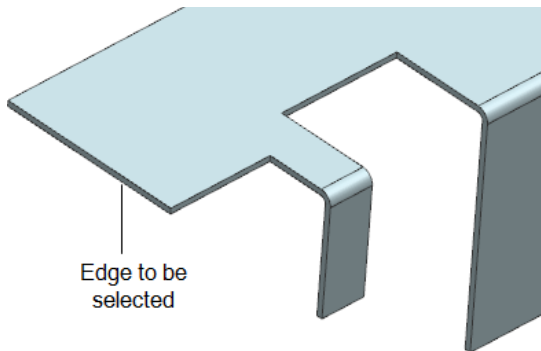
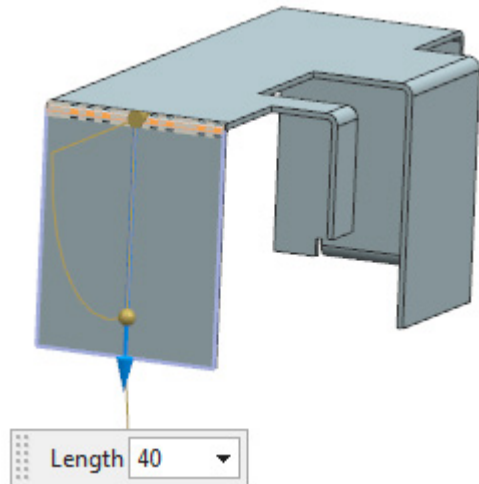

Figure 14-114 Edge to be selected
Figure 14-115 Preview of the fifth flange
11. Next, create the fifth flange of 40 mm length by selecting the edge, as shown in Figure 14-114. The preview of the flange is shown in Figure 14-115.